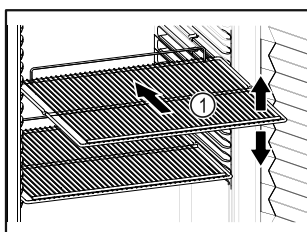

Fig. 20 Example illustration
- ❑ If storage surfaces Fig. 20 (1) are movable, adjust them according to height.